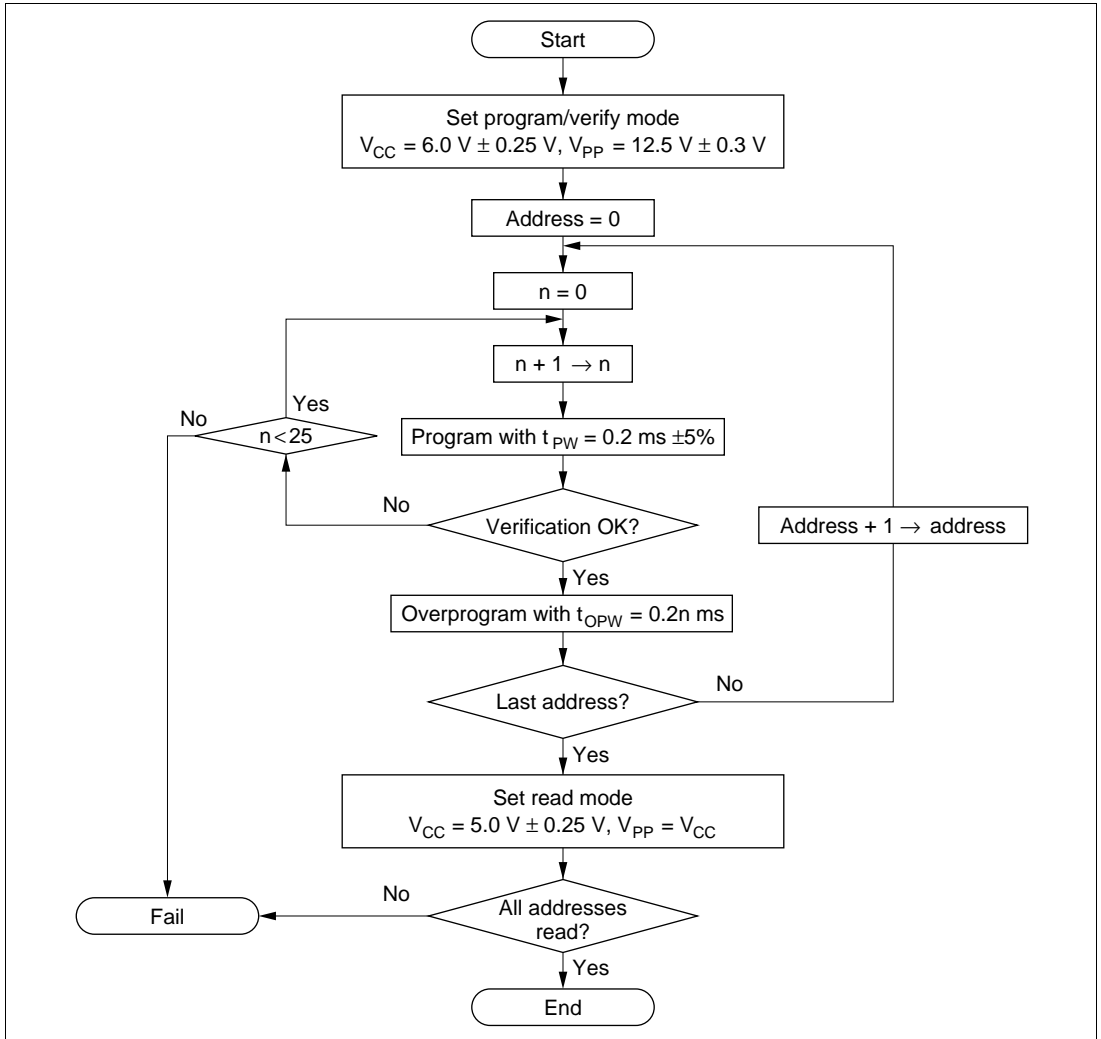

Figure 6.4 High-Speed, High-Reliability Programming Flow Chart
An efficient, high-speed, high-reliability programming procedure can be used to program and verify data. This procedure programs the chip quickly without subjecting it to voltage stress and without sacrificing data reliability. Data in unused address areas is H'FF. Figure 6.4 shows the basic high-speed, high-reliability programming flow chart.
- t_{OPW} is defined by the value given in the hi-speed, hi-reliability programming flow chart in figure 6.4.